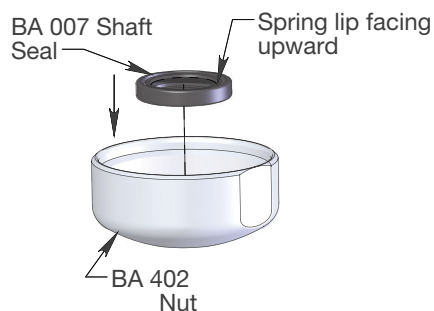

Figure 14: For Steps 13
13. Press Shaft Seal (BA 007) into Nut (BA 402). **Grease inner lip of seal** (see Figure 14).